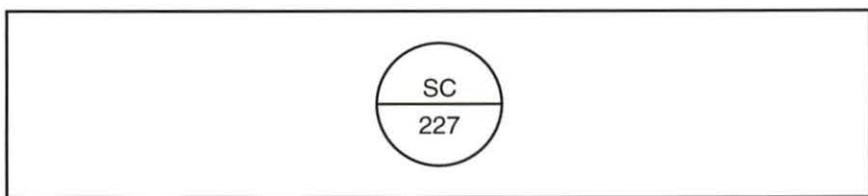

Figure 53. Instrument Tag
11. Determine the measured variable indicated in the instrument tag in figure 53.